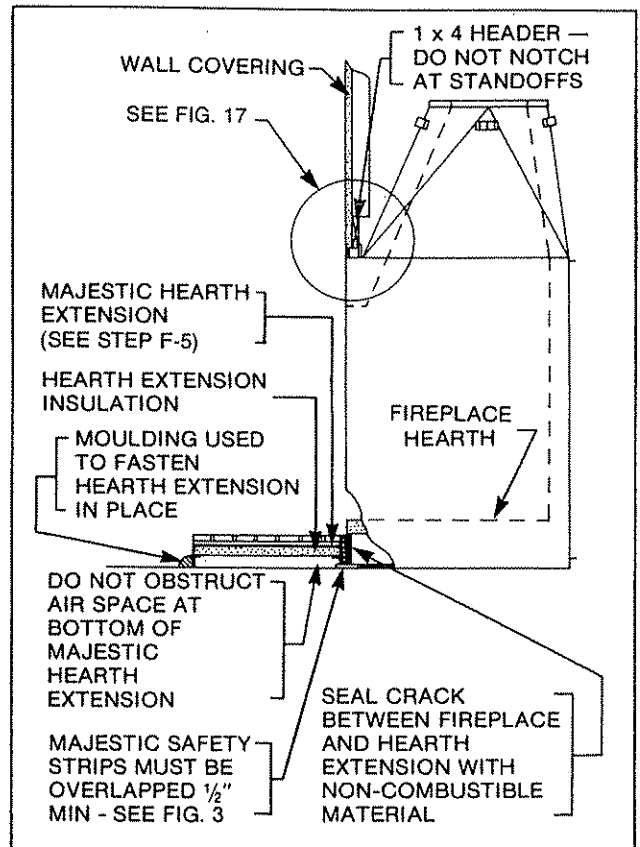
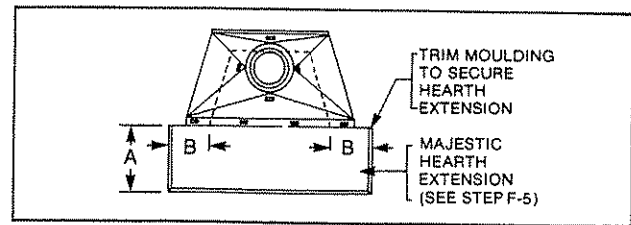

Fig. 19. Sealing detail.
Fig. 22. Minimum dimensions of hearth extensions.
All joints, (top, bottom, and sides) where the wall or decorative facing material meets the fireplace surround must be completely sealed with a non-combustible material. See Figs. 19 and 20.
Secure the hearth extension (See Fig. 22) to the floor to prevent shifting using trim moulding or other similar means at the three outer edges. Seal the crack between the fireplace hearth and the hearth extension with a non-combustible material. See Figs. 19 and 20.
**WARNING: HEARTH EXTENSION MUST BE INSTALLED IN ACCORDANCE WITH FIGURES 19 OR 20 OR MAJESTIC SPECIFICATION 74-10-102A**